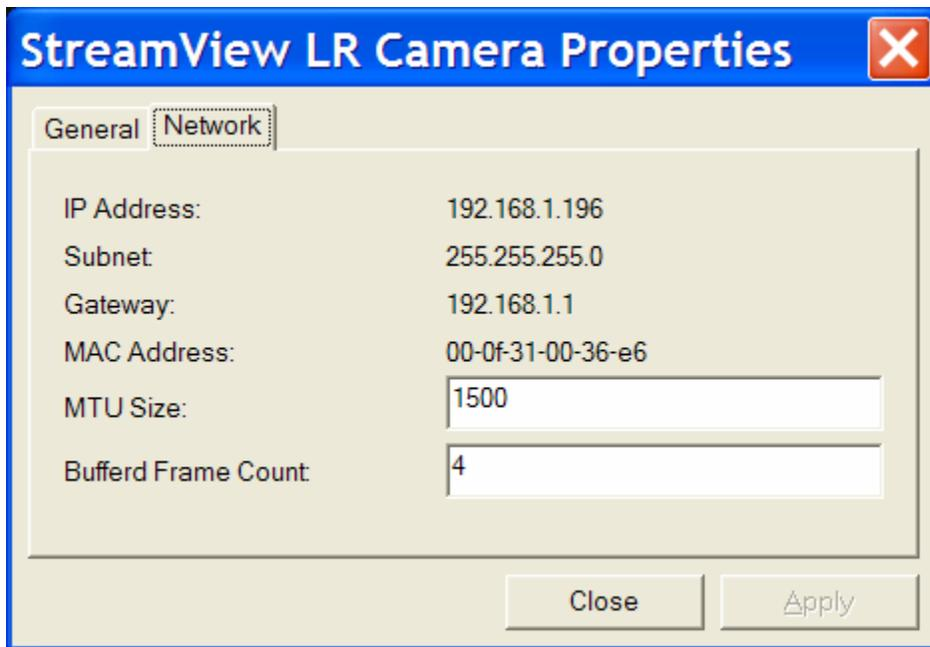

Figure 5 Setting StreamView-LR MTU size.
8. Once connected, the camera will begin displaying video recorded at 60-fps, 16-msec exposure, and 640x480. Click [Stop] to halt capture and adjust recording parameters. **Important:** every StreamView-LR camera is shipped with a maximum transfer unit (MTU) size of 1500. StreamView-LR supports an MTU size of 9,028 for faster downloads. The camera **MUST** have an MTU setting less than or equal to that of the host network adapter. SVSi recommends setting the camera MTU size to the maximum value supported by the host network interface. At the time of this writing, several PCMCIA network cards support 7,000 and most PCI or PCIe network cards support 9,000 and higher. See the performance section below for a list of network cards tested with StreamView-LR. If the images being displayed are black or have horizontal bands through them, then the MTU size set for StreamView-LR is not compatible with the MTU size set on the host network connection. To set StreamView-LR's MTU size, on the [Capture] window, click on [Camera->Properties->Network]. The window of Figure 5 will appear.
The Buffered Frame Count of Figure 5 refers to the number of frames buffered inside StreamView-LR before transmission. Best performance is obtained with the gige filter driver installed and the Buffered Frame Count equal to 20. If the host computer appears to slow down or fail to respond, this Buffered Frame Count can be set to a lower value.